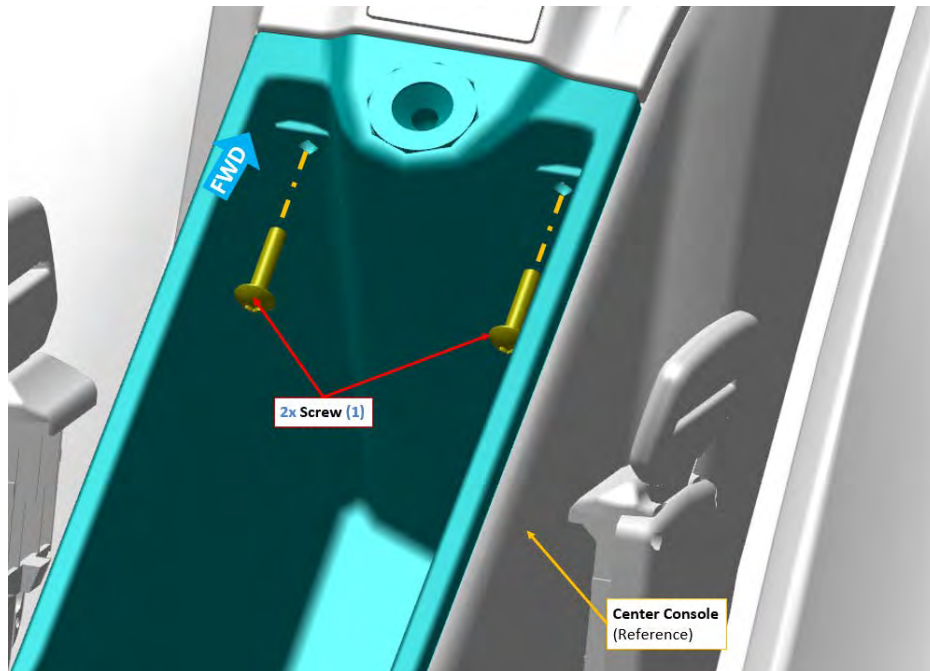

FIGURE 9-3
1. Remove 2X Screws which secure the FWD edge of the center console bucket. Retain all fastening hardware. See Figure 9-3.
4. Install 2x screws which secure the FWD edge of the center console bucket. Apply ICA012078 lubricant and torque to 12 in-lbs. See Figure 9-3.